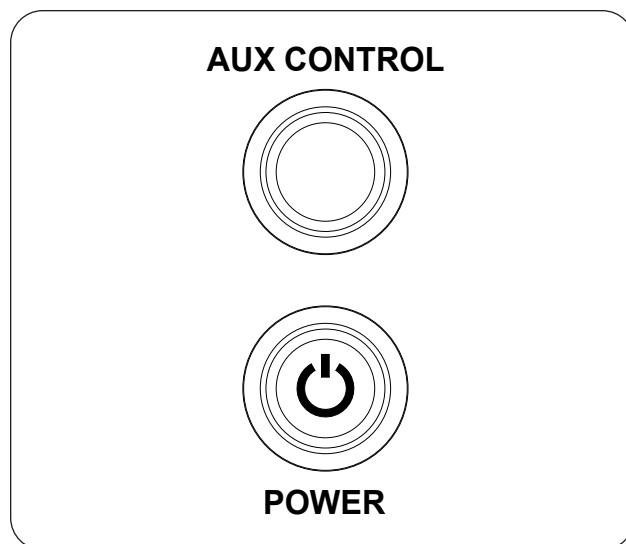

Fig. 27-1 Manual Operation:
1. Locate the **POWER** button on the control panel, and push it (see Fig. 27-1). The light will illuminate indicating the system is on and ready.
2. Locate the **AUX CONTROL** button on the control panel, and push it (see Fig. 27-1). The light will illuminate and the burner ignition sequence will begin.
To shut down the burner (system will remain on), push the **AUX CONTROL** button (see Fig. 27-1).
To shut down the burner and system (total shutdown), push the **POWER** button (see Fig. 27-1).